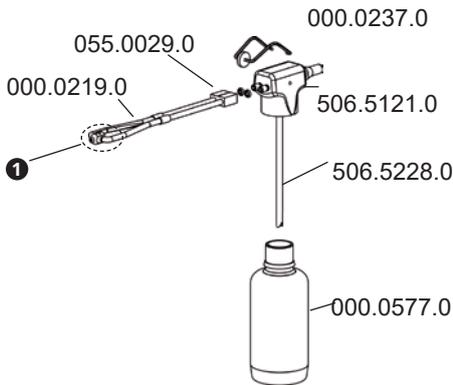
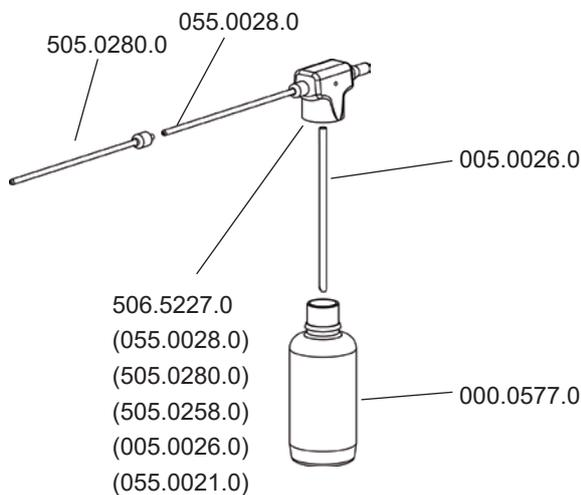

Fig. 29. Medicament sprayer 506.5120.0
Fig. 30. Medicament sprayer 506.5225.0
- Dismount the medicament sprayer (fig. 29, 506.5120.0; fig. 30, 506.5225.0) and thoroughly rinse all parts under running water. A detergent or cleaning agent may also be used if required.
- ☞ Observe when mounting the twin tube nozzle, that the marking (0,X or milling area, ❶, Fig. 29) on the nozzle shows upwards!